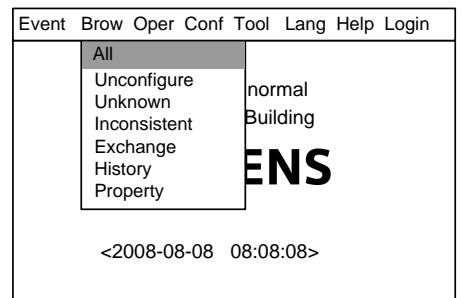

Fig. 33-2
2. Press "→" to select "Brow" submenu (Fig. 33-2). Press "↓" to select "Other", and then press "OK" to display the information (Fig. 33-3).